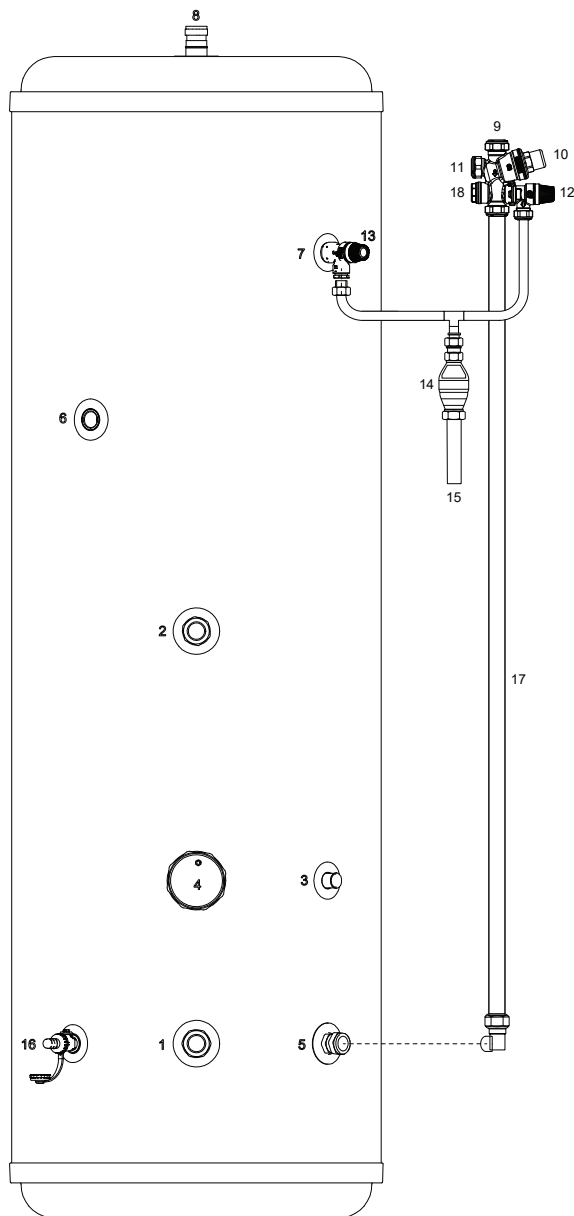

Figure 2-3: Grant QR cylinders
- Locate the dual thermostat probes in the stainless steel stat pocket (refer to Figure 2-3, for location) and secure using the retaining screws on the thermostat housing.
The ½" drain cock is factory fitted in the cold feed to the cylinder to provide a means of draining the unit. Refer to Figures 2-3 for a suitable drain cock position that will enable most of the cylinder to be drained off when required.